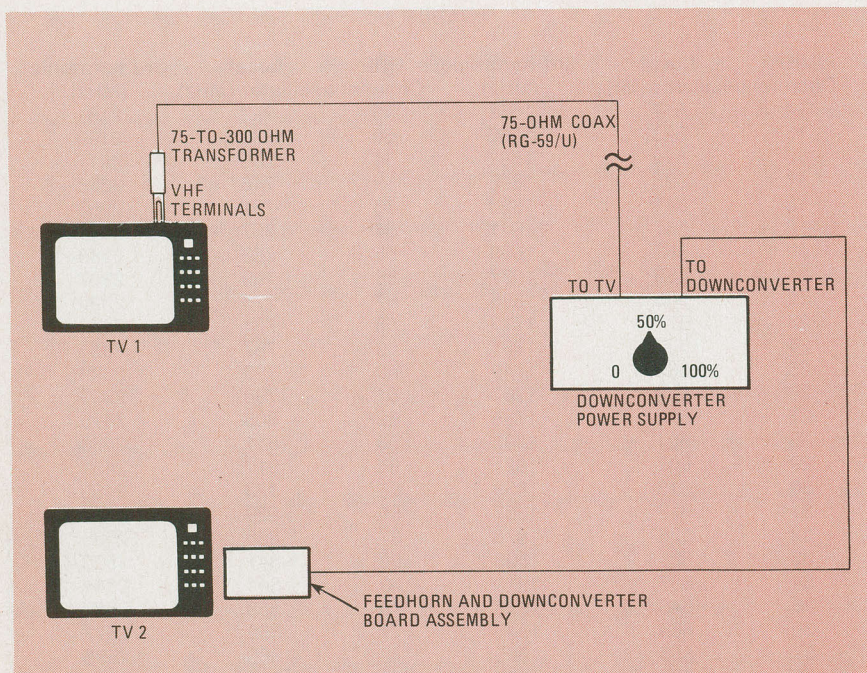

FIG. 3—TEST SETUP for tuning the downconverter. Here the feedhorn assembly is placed close to TV-2 to pick up the artificial microwave signal.
**1. Connect the equipment** as shown in Fig. 3. As you can see, TV-1 is connected to the output of the converter, while TV-2 is connected the antenna/downconverter terminal of the power supply through the feedhorn/downconverter assembly.